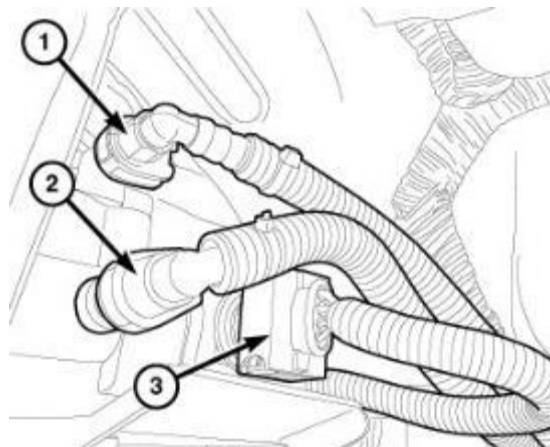

Figure 51 – Inlet and Outlet Lines
- 94. Disconnect the fuel filter/water separator outlet fuel line (1) (Figure 51).
- 95. Disconnect the fuel filter/water separator inlet fuel line (2) (Figure 51).
- 96. Disconnect the combination fuel heater/temperature sensor wire harness connector (3) (Figure 51).
111. Connect the combination fuel heater/temperature sensor wire harness connector (3) (Figure 51).
112. Connect the fuel filter/water separator inlet fuel line (2) (Figure 51).
113. Connect the fuel filter/water separator outlet fuel line (1) (Figure 51).